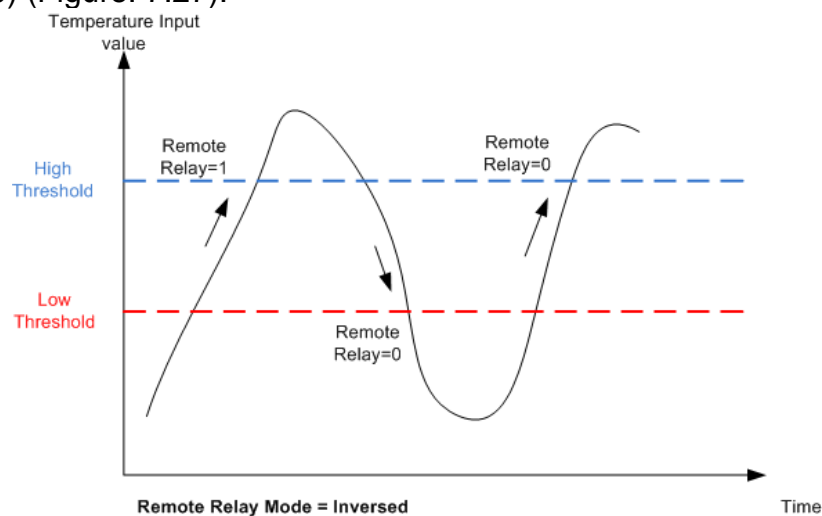

Figure 7.27. Controlling remote relay when **Remote Relay Mode** parameter is "Inversed"
- *Inversed* - when the rising Temperature Input value crosses the **High Threshold**, the remote relay (digital output) will be ON (1). When the falling value crosses the **Low Threshold** the remote relay (digital output) will be OFF (0) (Figure. 7.27).